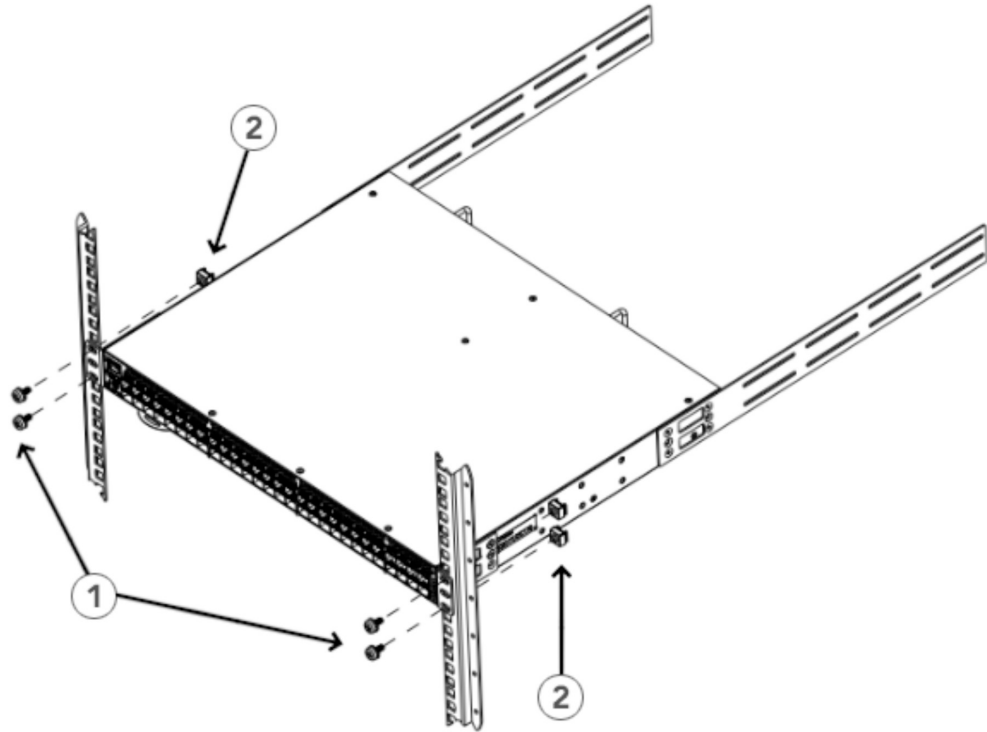

Figure 7. Positioning the device in the rack
1. Position the device in the rack, as shown in Figure 7 on page 17, providing temporary support under the device until the rail kit is secured to the rack.